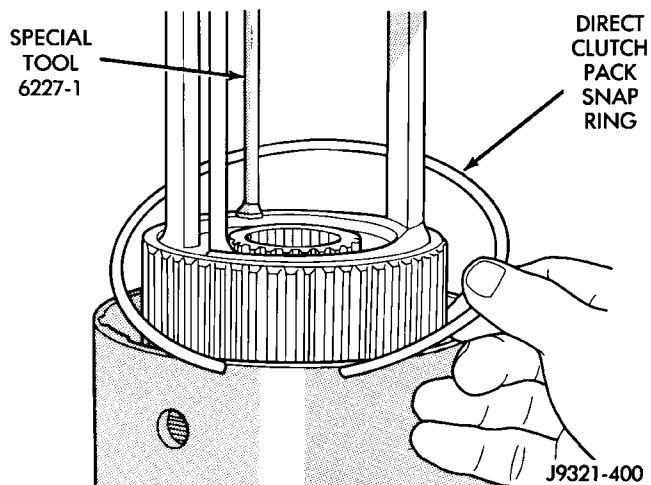

Fig. 230 Direct Clutch Pack Snap Ring Installation
(20) Position Compressor Tool 6227-1 on clutch hub.
(21) Compress clutch hub and spring just enough to place tension on hub and hold it in place.
(22) Slowly compress clutch hub and spring. Compress spring and hub only enough to expose ring grooves for clutch pack snap ring and clutch hub retaining ring.
(23) Realign clutch pack on hub and seat clutch discs and plates in clutch drum.
(24) Install direct clutch pack snap ring (Fig. 230). **Be very sure snap ring is fully seated in clutch drum ring groove.**